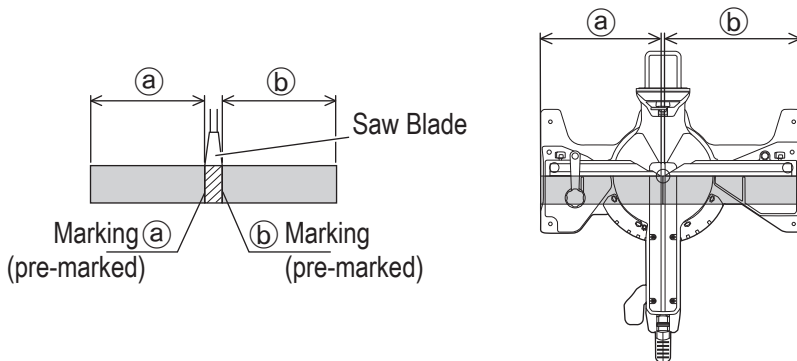

Fig. 27
- (1) As shown in **Fig. 27** the width of the saw blade is the width of the cut. Therefore, slide the workpiece to the right (viewed from the operator's position) when length **ⓑ** is desired, or to the left when length **ⓐ** is desired.